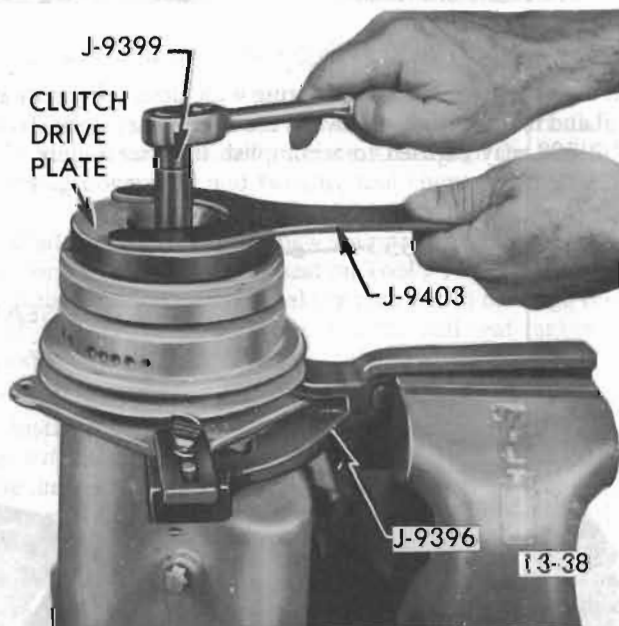

Figure 13-15 Removing or Installing Shaft Nut
1. Firmly clamp holding fixture (J-9396) in a vise and attach compressor assembly to fixture (see Figure 13-15).